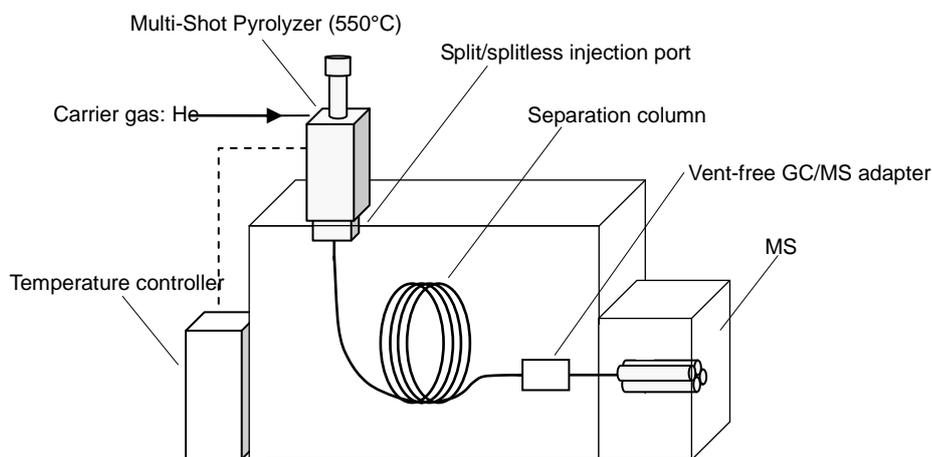
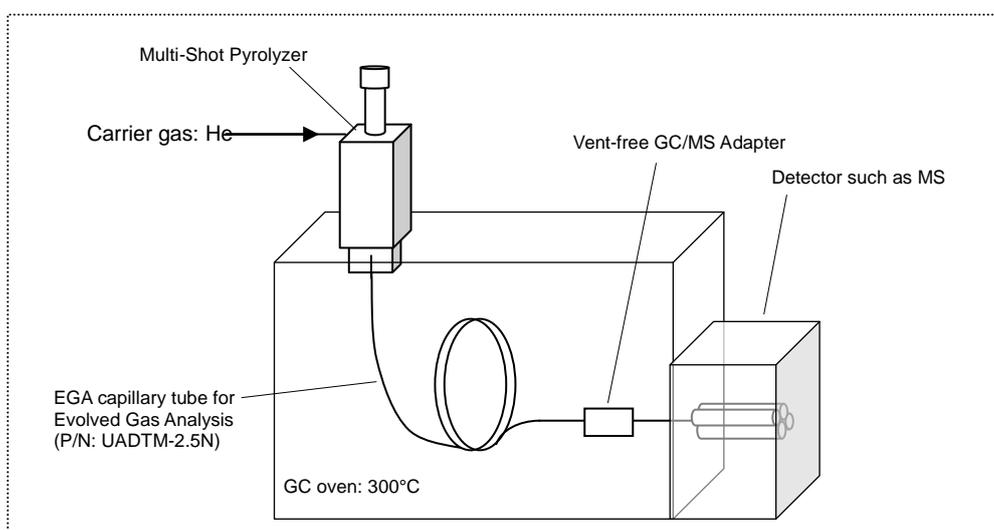
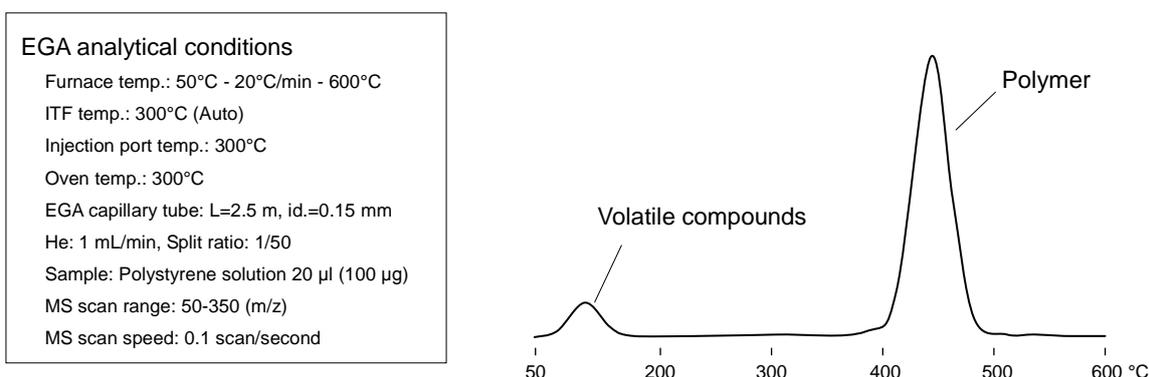

Fig. 5.1 Typical instrument configuration for Py-GC/MS
Fig.5.4 Typical instrument configuration for Evolved Gas Analysis
Fig. 5.6 EGA Thermogram
This method is also called flash pyrolysis. The sample is placed in a sample cup which is then attached to the sampler. The sampler is attached to the Multi-Shot pyrolyzer. Pyrolysis occurs when the cup is released and “free falls” into the pyrolyzer furnace which is at the pre-selected pyrolysis temperature. The gases generated in the furnace are swept into the splitter by the carrier gas. The sample vapors are split; a portion going to the analytical column and a portion exiting via the split vent. A typical instrument configuration for a Py-GC/MS system is shown in Fig. 5.1.
A typical instrument configuration for EGA is shown in Fig. 5.4. The pyrolyzer and a detector are connected via a deactivated EGA tube (L=2.5 m, id.= 0.15 mm). The GC oven is normally held at 300°C. When the sample is heated, the thermally desorbed components and gases arising from the decomposition of the polymer sample are released and detected as shown in Fig. 5.6.
STEP2 Setting analytical conditions for pyrolyzer and GC (see Fig. 5.6)
- (1) Set the interface temperature (ITF TEMP) to "Auto" mode.
- (2) Set the furnace temperature in the "Direct EGA Analysis" screen.
The analysis result is shown in Fig. 5.6. From this EGA thermogram, the following can be observed.
This is a two-step analysis in which volatiles are analyzed using thermal desorption technique, and the residual polymeric fraction is then pyrolyzed. A typical instrument configuration for the Py-GC/MS is shown in Fig. 5.1. The sample is the supplied polystyrene solution. The analytical conditions for thermal desorption and flash pyrolysis are determined using the EGA thermogram shown in Fig. 5.6.